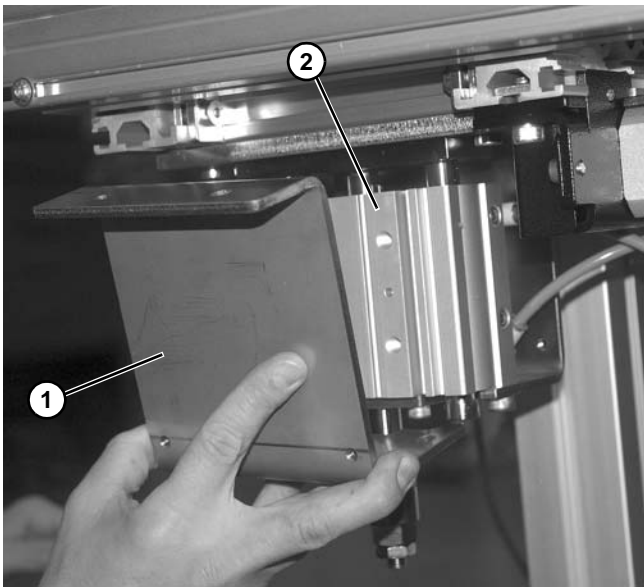

Figure 110
8. Remove bracket (**Figure 110, item 1**) from around lift cylinder (**Figure 110, item 2**).